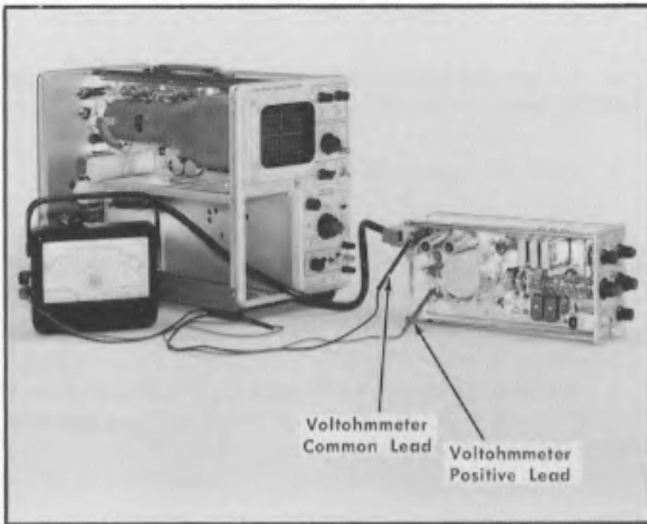

Fig. 6-6. Initial test equipment setup for steps 2 through 7.
- Initial test equipment setup is shown in Fig. 6-6.